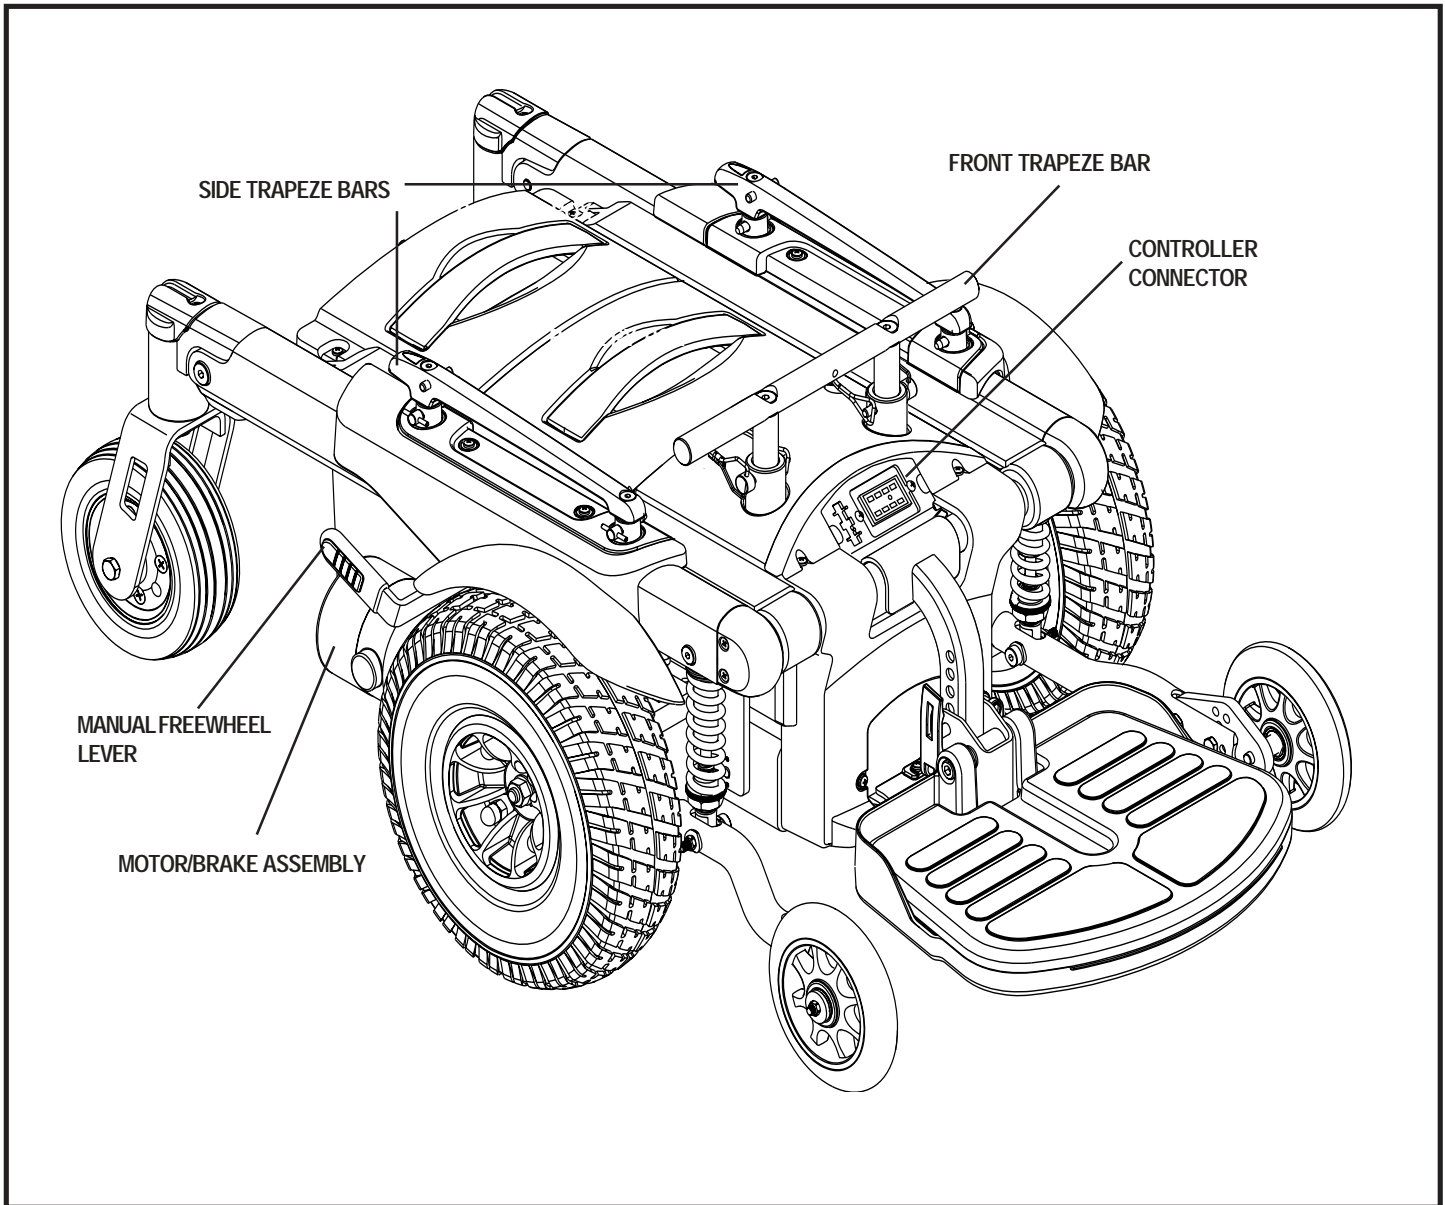

Figure 6. The Jazzy 1107 Power Base
The electrical components consist of the controller assembly, the batteries and the motors. The batteries, motors and controller power module are located on the power base assembly. See figures 6 and 7. The controller is located on the seat assembly. Connectivity between the controller and the motors, the batteries and the battery charger is provided by one or more wiring harnesses.
Your power chair has a manual freewheel lever on each motor. See figure 6. Manual freewheel levers enable you to disengage the drive motors from the gearboxes and manoeuvre the chair manually.
2. Disconnect the controller from the power base. See figure 6.